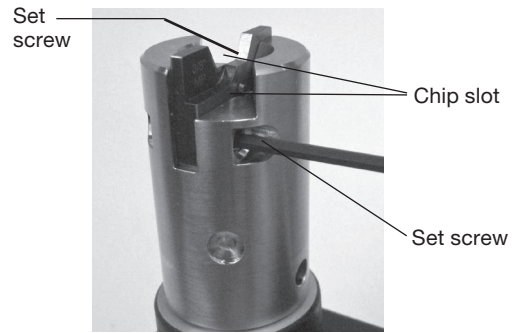

Fig. 7 Tighten these #10 set screws then the second pair on opposite side of housing
3. Tighten the two #10 set screws opposite the coning face of the blade first to set the coning insert properly. (Fig. 7)
4. Tighten the other two #10 set screws (Fig.7).